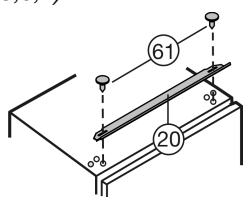

Fig. 15
- Screw *Fig. 15 (20)* the equalizer trim *Fig. 15 (61)* to the appliance through the oblong holes on top.